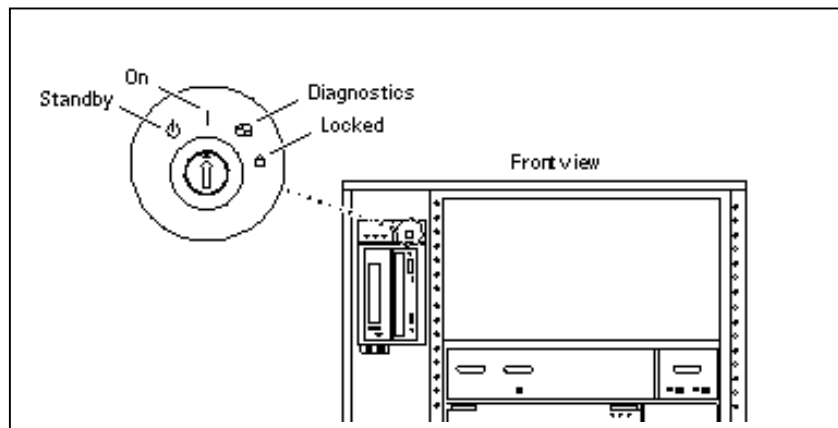

Figure 19.2 – Key Switch Positions
1. Open the front louvered panel, by pulling on the top right corner and get the keys. Located by the swing hinge on the left side of the control panel. In the upper left-hand corner, push in the small door. Insert the key, and then turn counterclockwise two clicks. The key will be vertical (straight line symbol). See Figure 19.2.